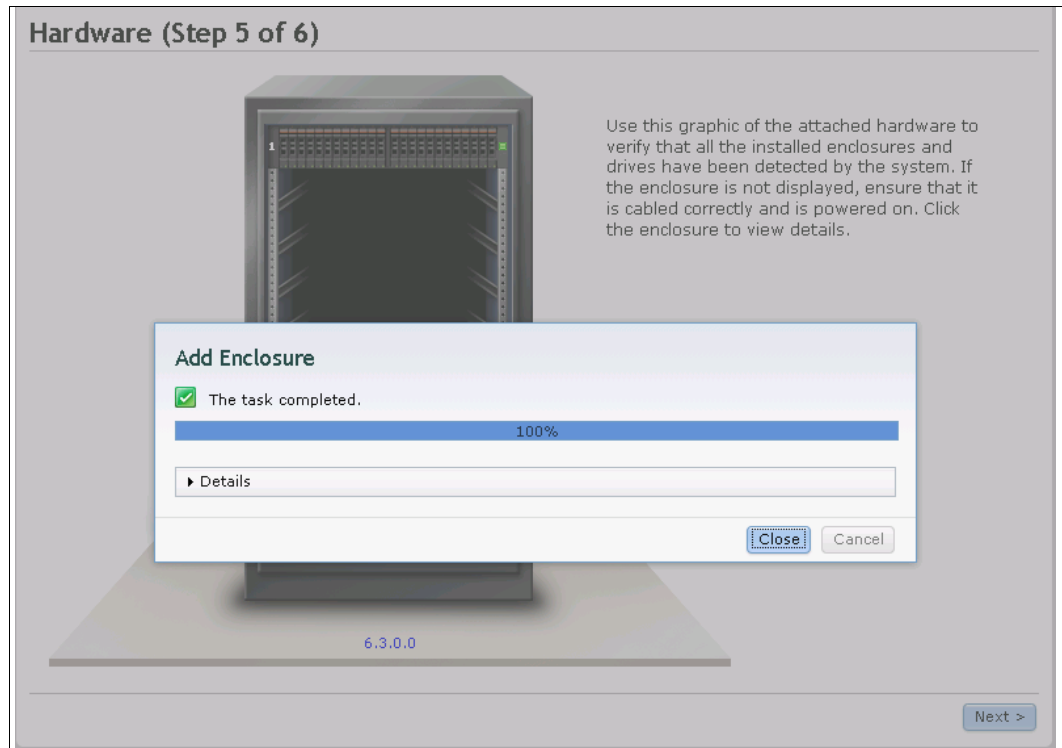

Figure 2-24 Setup wizard - Task completed
8. After you click **Next**, an Add Enclosure window opens. Wait until The task completed windows opens (Figure 2-24).